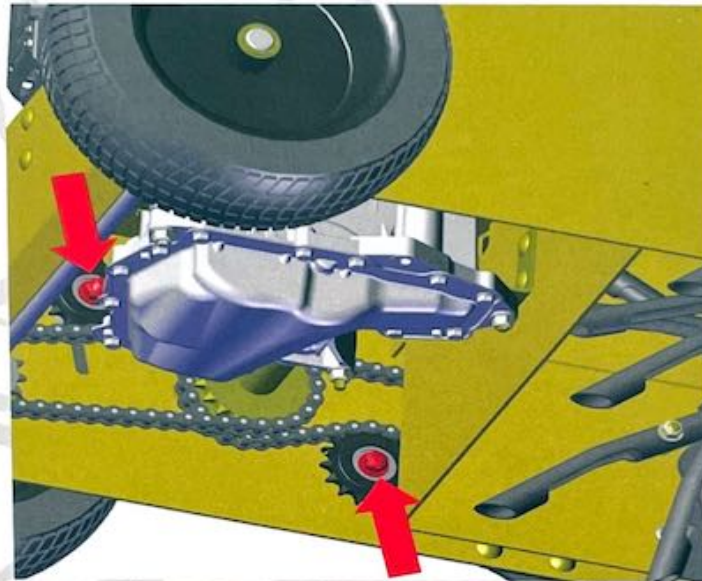

Figure 9
1. Loosen idler sprockets nut as shown in Figure 9 but do not remove.